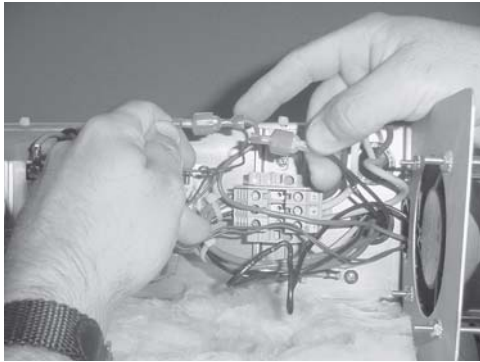

Figure 3-22
2. Unplug connectors to the cooling fan. Figure 3-22.